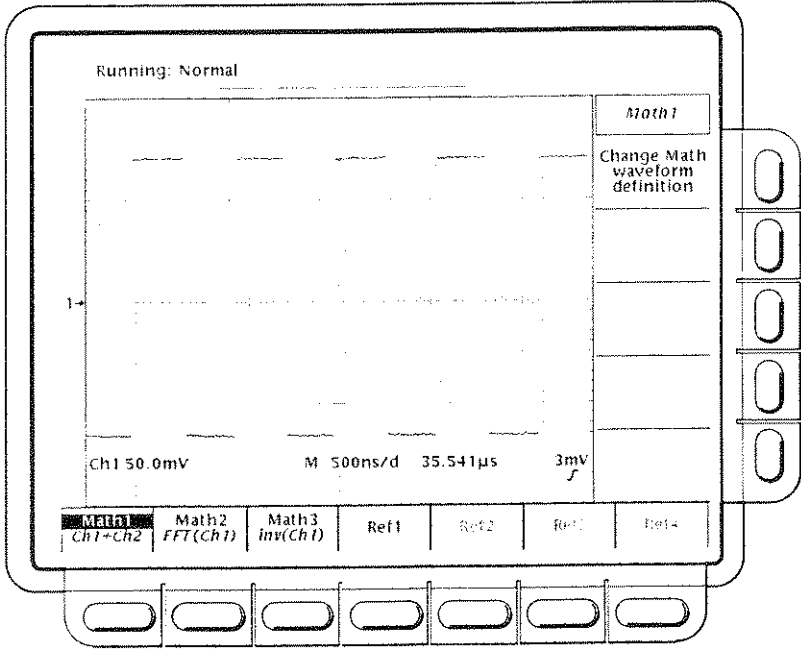

Figure 3-53: More Menu
*In Figure 3-53, the main menu items Ref2, Ref3, and Ref4 appear shaded while Ref1 does not. References that are empty appear shaded in the More main menu.*